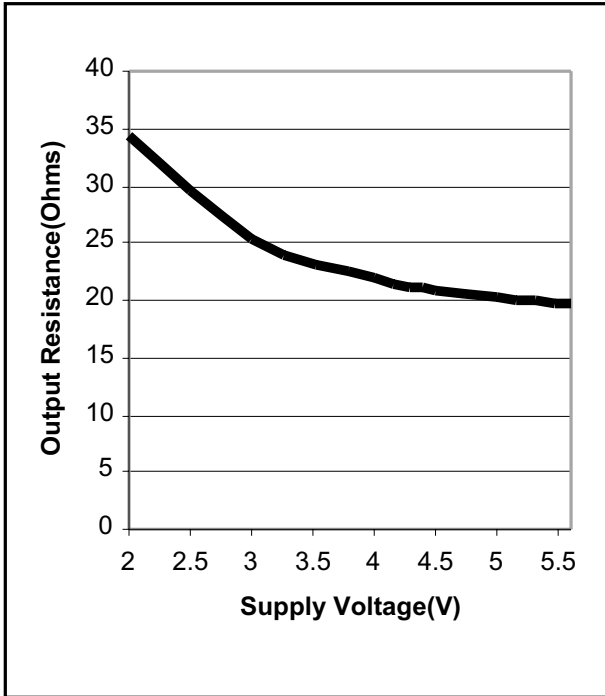

Figure 2. Output Resistance vs. Supply Voltage
**Figure 17:** SP6830/6831 Connected as a Voltage Inverter in its Typical Operating Circuit; this Circuit Was Used to Obtain the Typical Performance Characteristics Found in Figures 2 Through 16 (unless otherwise noted)